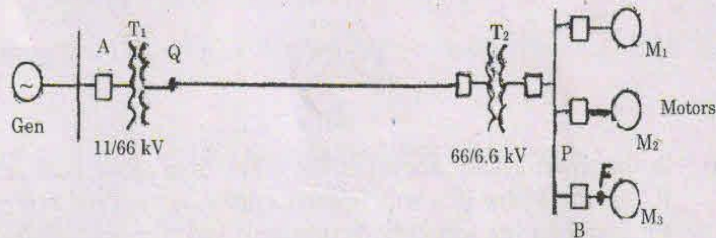

Fig. 13(a)
13. (a) A 25 MVA, 11 kV generator with $X_d'' = 20\%$ is connected through a transformer, line and a transformer to a bus that supplies three identical motors as shown in Fig.13(a). Each motor has $X_d'' = 20\%$ and $X_d' = 30\%$ on a base of 5 MVA, 6.6 kV. The three-phase rating of the step-up transformer is 25 MVA, 11/66 kV with a leakage reactance of 10% and that of the step-down transformer is 25 MVA, 66/6.6kV with a leakage reactance of 10%. The bus voltage at the motors is 6.6 kV when a three-phase fault occurs at the point F. For the specified fault, calculate (i) the sub transient current in the fault, (ii) the sub transient current in the breaker B. (iii) the momentary current in breaker B, and (iv) the current to be interrupted by breaker B in five cycles. (13)